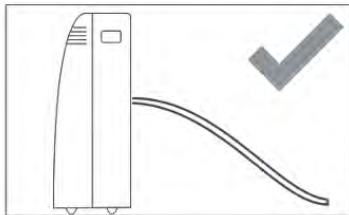
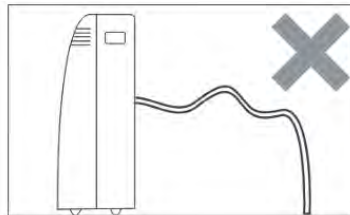

Fig.18
Fig.19
**NOTE:** Ensure that the drain hose is not higher than the middle drain outlet, or the water tank may not drain fully. (Fig.18 and Fig.19)